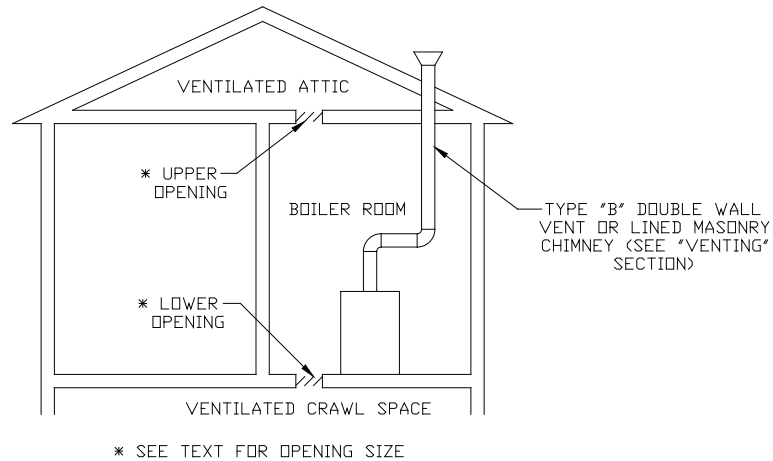
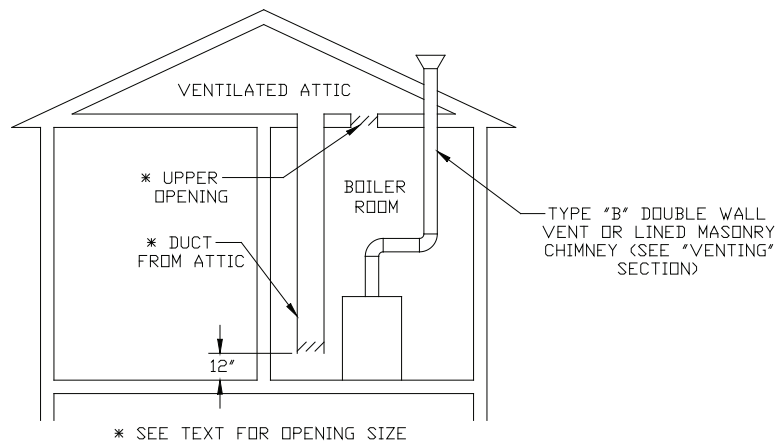
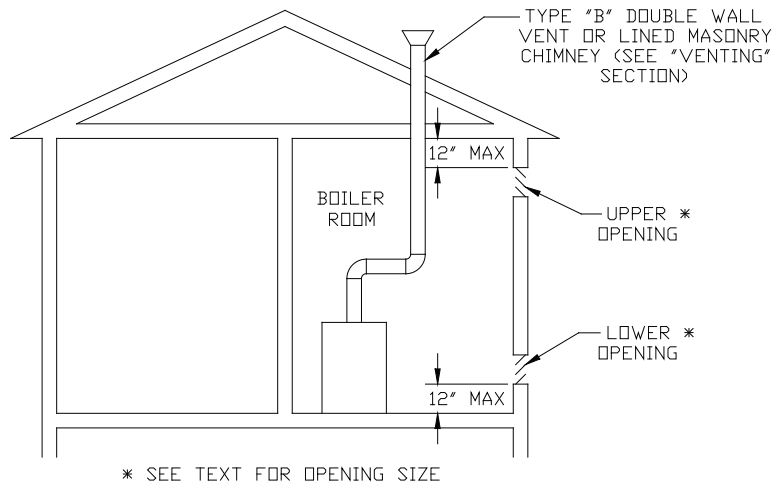

FIGURE 4: ALL AIR FROM OUTDOORS,
FIGURE 5: ALL AIR FROM OUTDOORS,
FIGURE 6: ALL AIR FROM OUTDOORS, USING
- Vertical ducts or openings directly outdoors (Figure 4, Figure 5, and Figure 6) - Each opening must have a free cross sectional area of 1 square inch per 4000 BTU/hr of the total input of all gas-fired appliances in the boiler room but not less than 100 square inches. Minimum opening size is 3 inches.